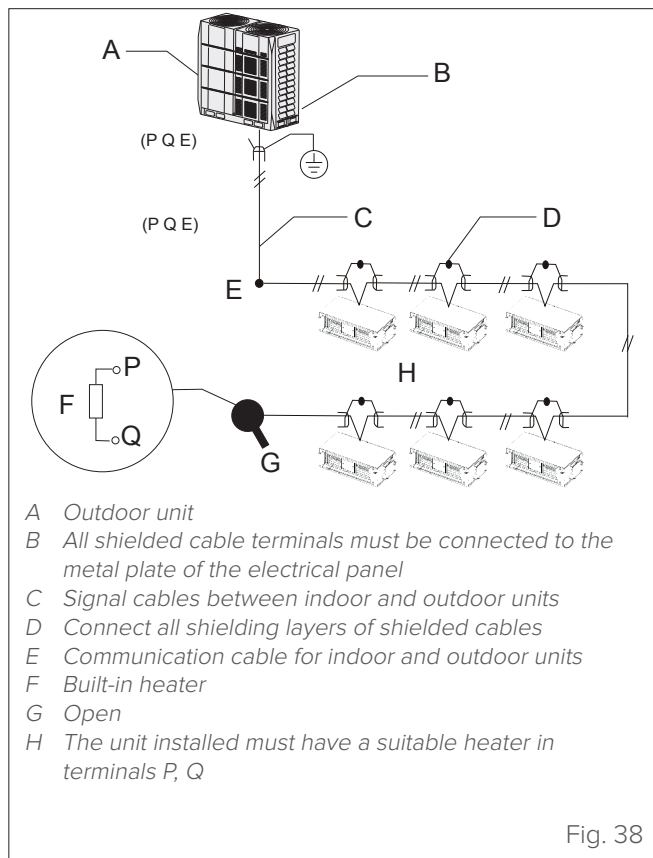

Fig. 38
- To increase the stability of the communication system, add a resistor to the last indoor unit. See "Fig. 38".
- Use 1 wired controller or 2 wired controllers (one main and one secondary) to control 1 indoor unit (See "Fig. 38");